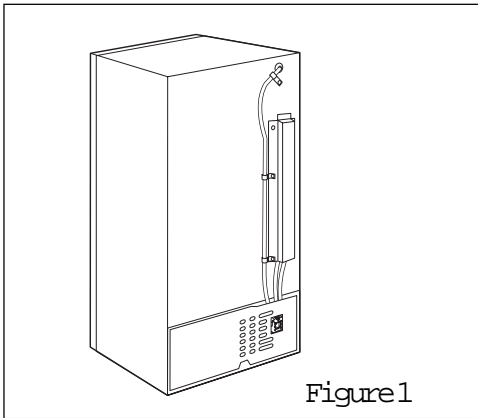

Figure 1
1. Turn ON water supply and flush out copper tubing. Turn OFF water supply (Figure 1).
2. Unplug refrigerator (Figure 1).